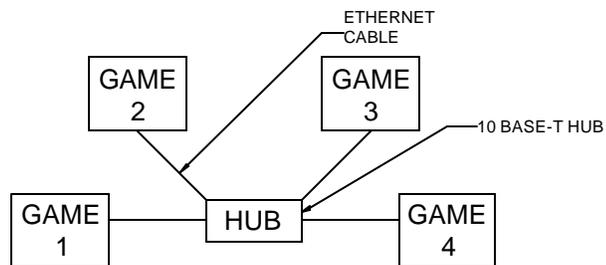
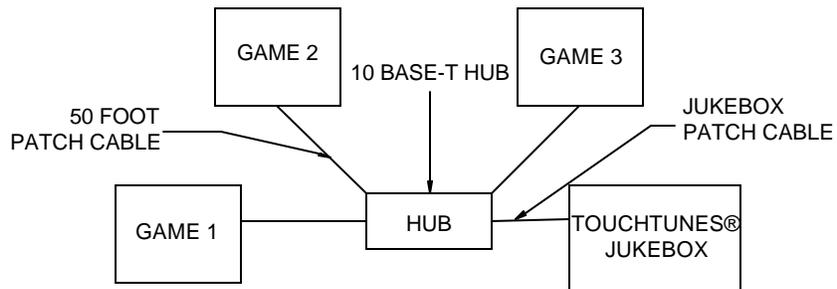

FIGURE 17 – LINKING THREE OR MORE MEGATOUCH GAMES
FIGURE 19 - LINKING MORE THAN ONE MEGATOUGH GAME AND A JUKEBOX
4. Plug the free ends of the Ethernet cables into a 10 BASE-T Ethernet hub (available from your distributor as a separate part, EC0030-01, or at your local computer store). See Figure 17. If you are linking a game to a TouchTunes® jukebox, plug the free end of the jukebox patch cable into the hub. See Figure 19.